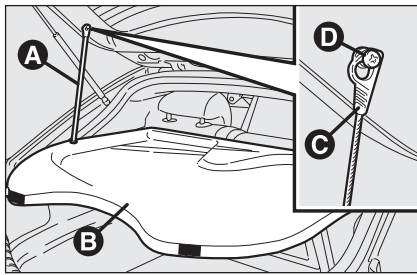

fig. 74
- release both rod ends **A-fig. 74** supporting the rear parcel shelf **B** by removing the eyelets **C** from pins **D**;